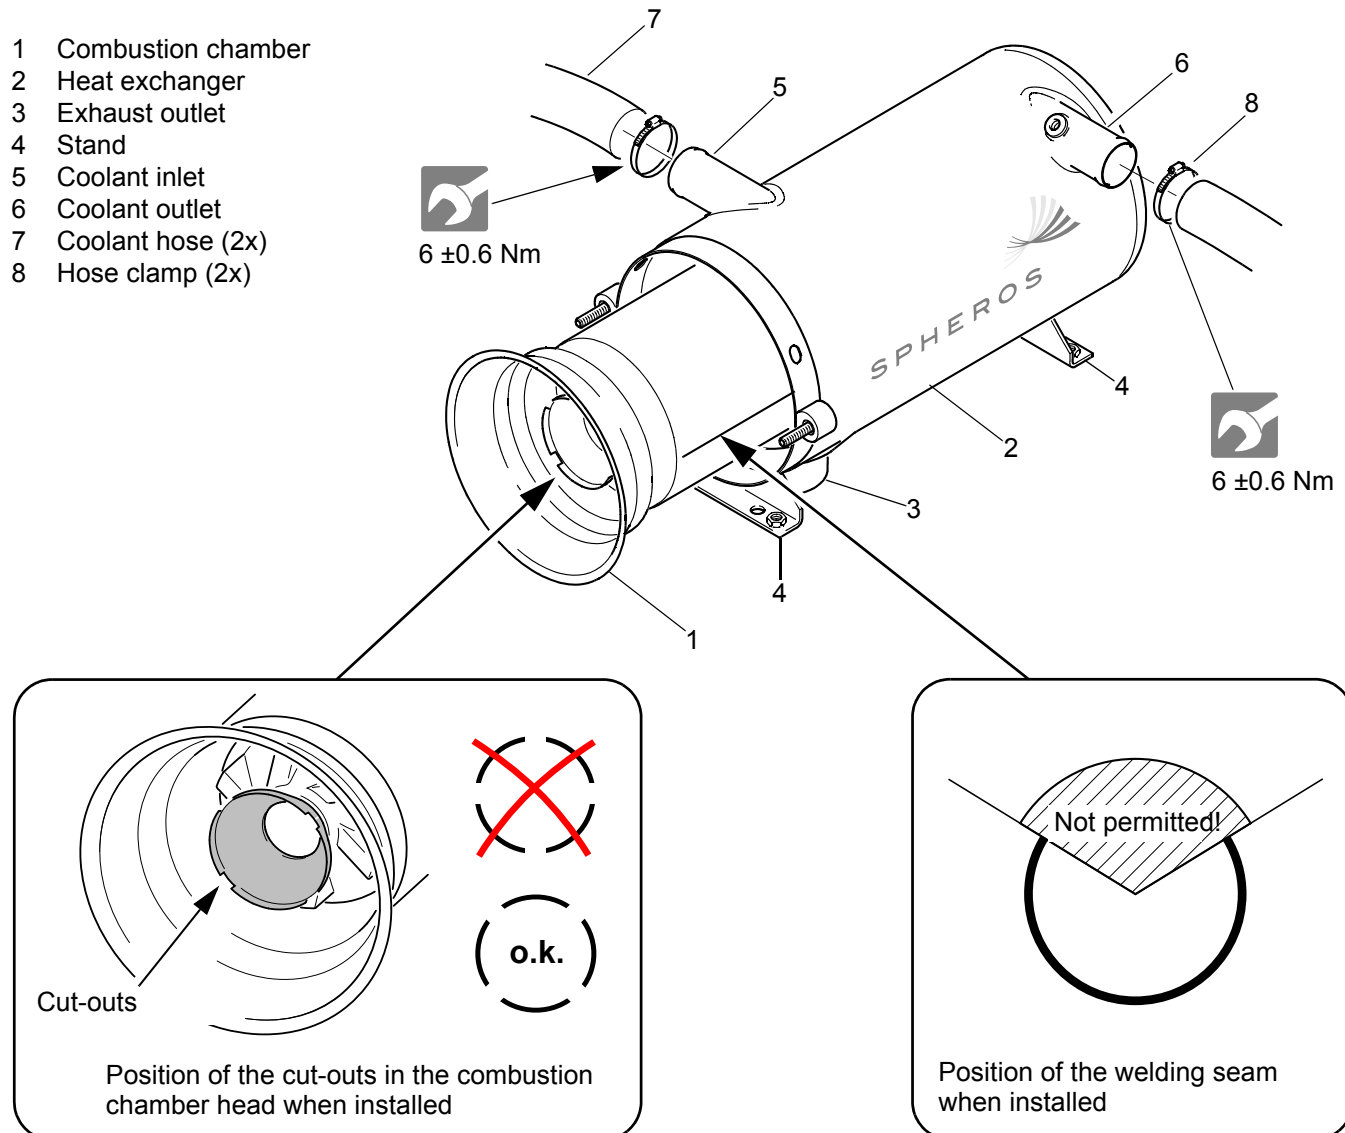

Fig. 808 Combustion chamber/heat exchanger removal/installation
2. Pull combustion chamber (1, Fig. 808) out of the heat exchanger (2).
1. Slide combustion chamber (1, Fig. 808) fully into the heat exchanger (2) against stop. Pay attention to a) the welding seam position, and
- The combustion chamber should be inserted into the heat exchanger in such a way that its welding seam is positioned between 2 and 10 o'clock (not upwards!) (Fig. 808).
- Position the cut-outs in the combustion chamber head as shown in Fig. 808.
3. Pull combustion chamber (1, Fig. 808) out of the heat exchanger (2) (see 8.11).
4. If necessary, loosen the exhaust line clamp on the exhaust outlet (3).
6. Loosen hose clamps on the coolant hoses, pull coolant hoses from the coolant inlet (5) and the coolant outlet (6) and seal with blank plugs. Caution if coolant temperature is increased.
7. Remove screws and washers of the heat exchanger stand (4).
1. Bring heat exchanger (2, Fig. 808) into installation position and mount stand (4) using screws, nuts and washers to the vehicle according to the mounting points used.
2. If necessary, secure the exhaust line using a clamp to the exhaust outlet (3).
3. Fit coolant hoses onto the coolant inlet (5) and the coolant outlet (6) and secure with hose clamps.